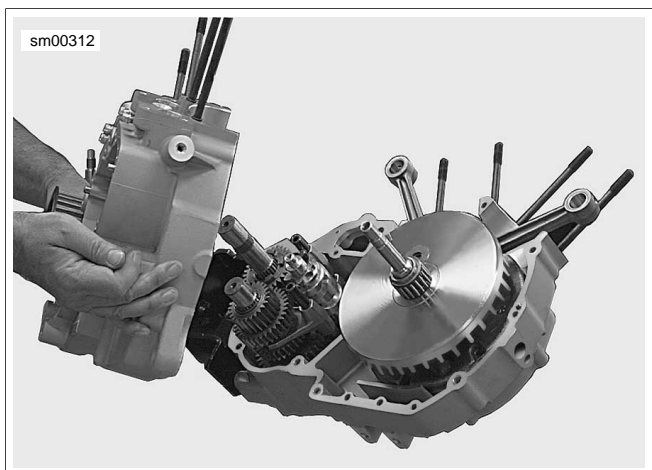

Figure 5-53. Separating Crankcase Halves
16. See Figure 5-53. Separate crankcase halves.